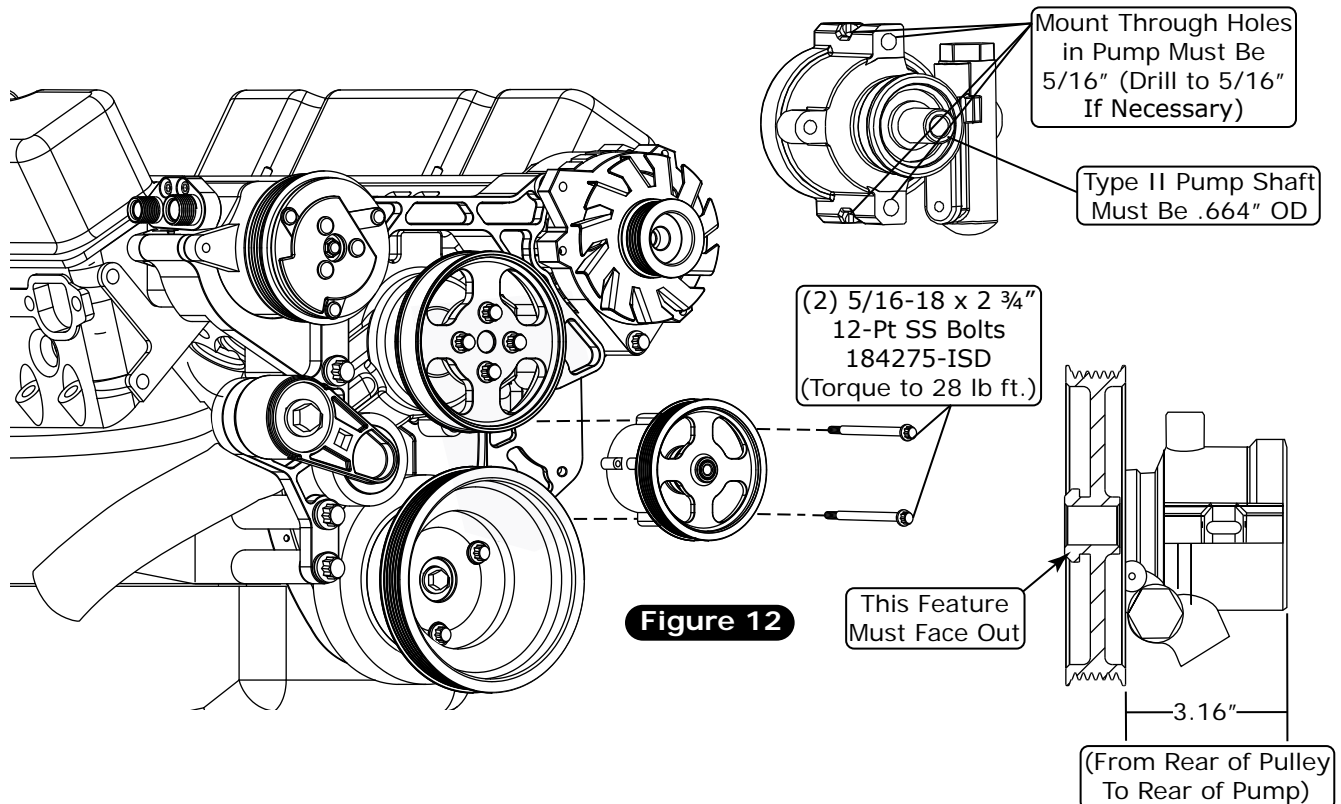

Figure 12
- **Some Type-II GM power steering pumps (non-Vintage Air pumps only) have threaded mounting bases.** These must be drilled out to allow the Front Runner mounting bolts to pass through the holes and thread into the bracket (See Figure 12, Page 14).
1. Using a power steering pump pulley installer, install the power steering pulley onto the power steering pump (See Figure 12, Page 14).
2. Install the power steering pump using (2) 5/16-18 x 2 3/4" 12-Pt SS bolts (See Figure 12, Page 14). Torque to 28 lb ft.